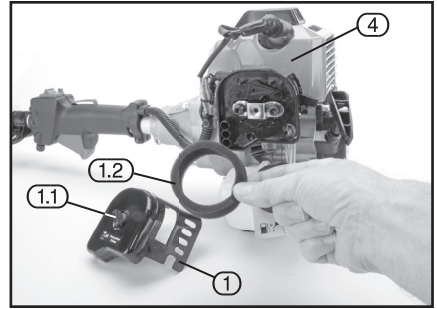

FIG. 35
15.1 CLEANING THE AIR FILTER - FIG.35